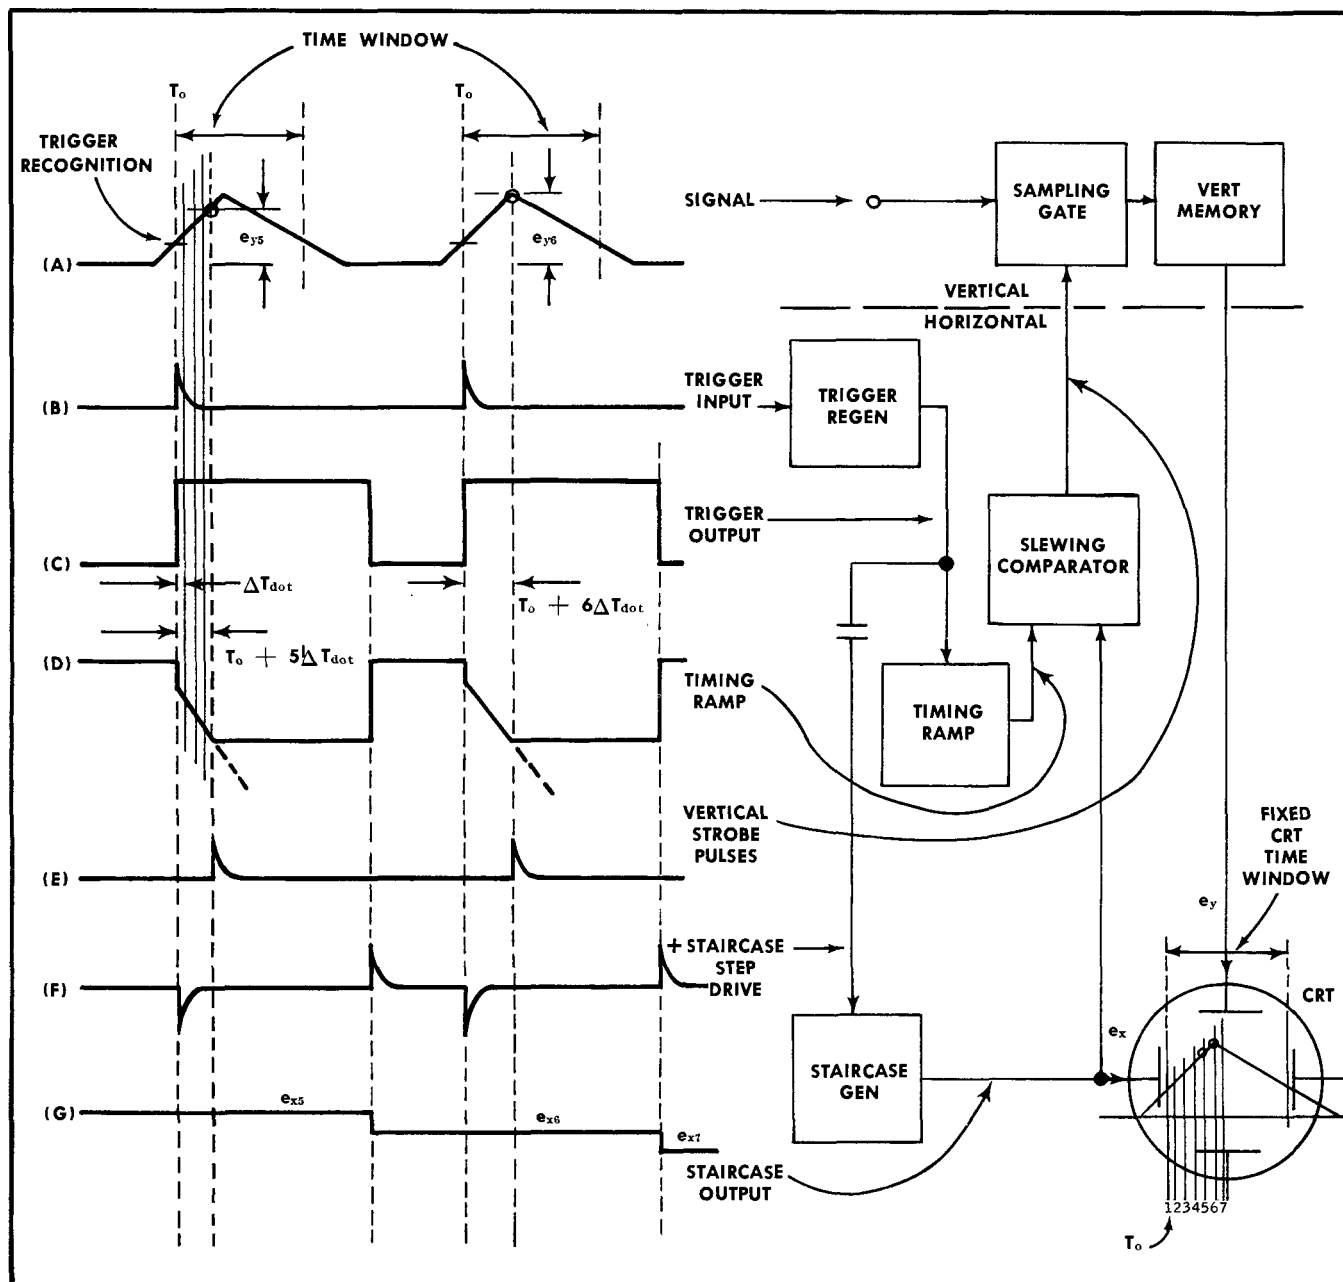
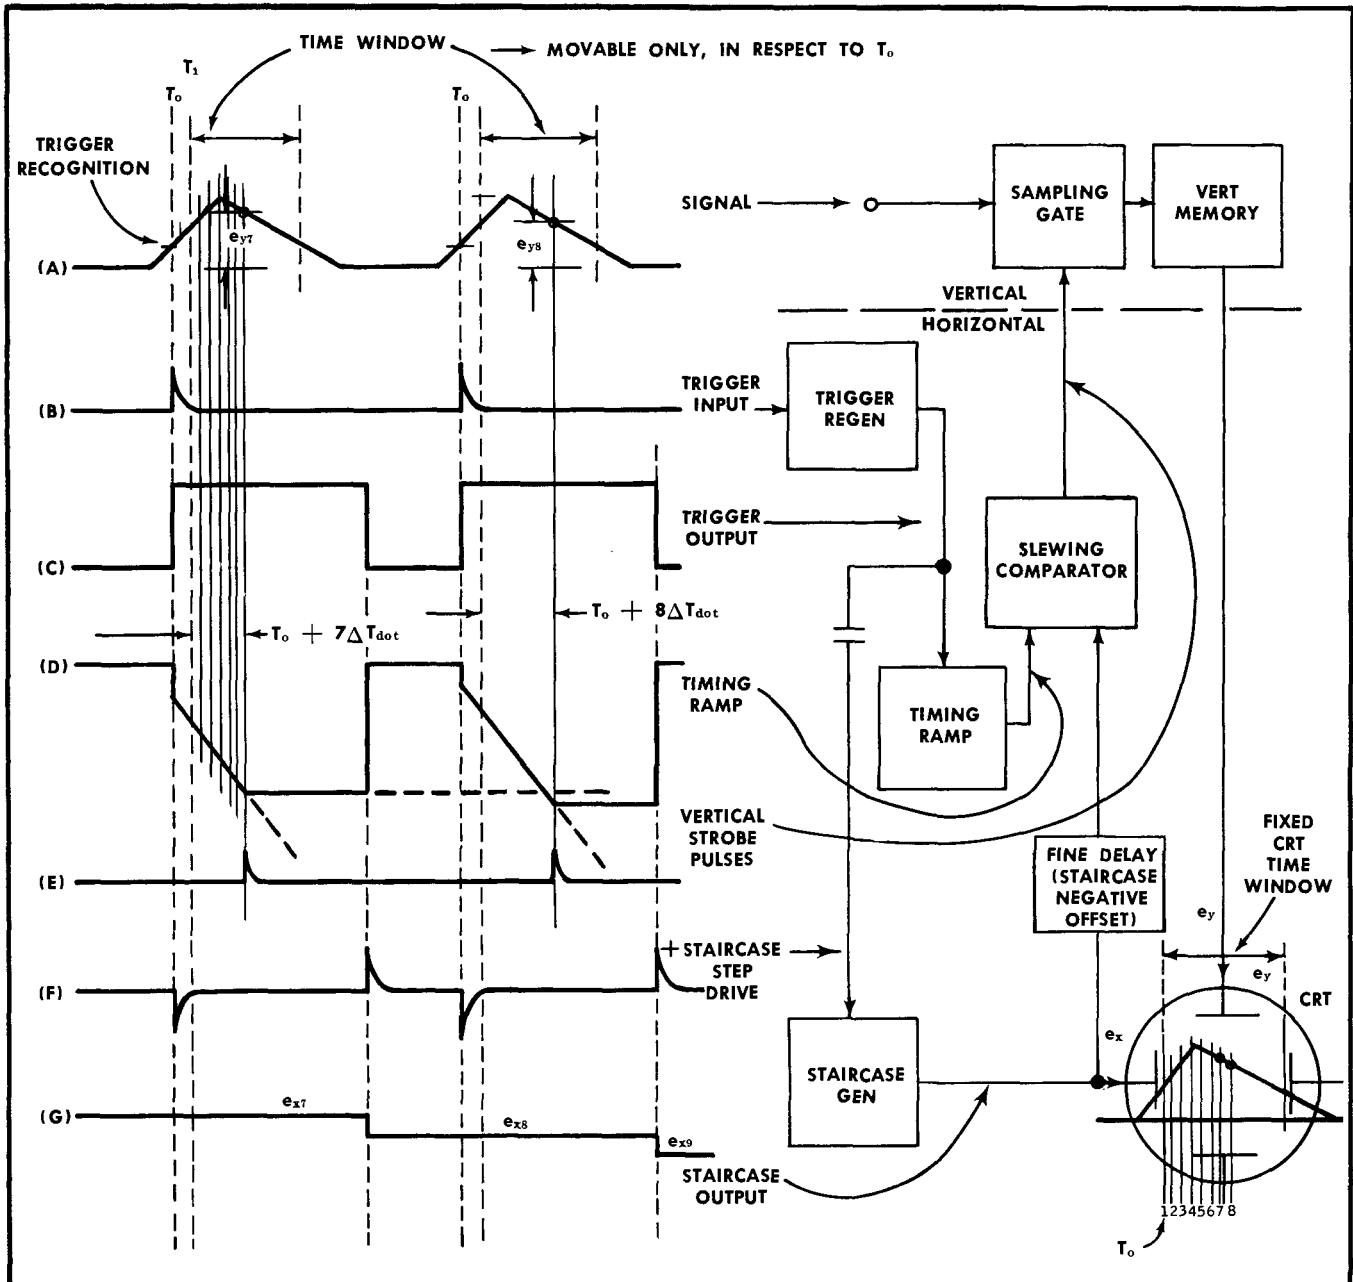

Fig. 3-2. Basic equivalent time sampling oscilloscope.
Fig. 3-3. Adding a time-window Delay control to basic block of Fig. 3-2.
The equivalent time sampling process is shown in basic form in Fig. 3-2. The waveforms represent just two samples in a sequence, such as the fifth and sixth dots of a 1000-dot display. Each waveform is identified with its block, or with interconnections in the adjacent block diagram.
The trigger regenerator circuit is the master programmer of Fig. 3-2. It delivers a positive step pulse at the time of trigger recognition, T_0 , to start the process that takes and displays one sample. Immediately after T_0 the trigger circuits lock out any more triggers until the rest of the circuits have operated and the dot has been properly displayed. (The period of time during which triggers are locked out is called the holdoff time, and is made variable by the Type 3T6 front panel RECOVERY TIME control. See the Operating Instructions for RECOVERY TIME control uses.)
At T_0 , the trigger circuit starts the timing ramp running in a negative direction. The timing ramp "times" the occurrence of the strobe drive pulse sent to the vertical sampling unit as the timing ramp is compared with the voltage of the staircase generator in the Slewing Comparator block. Since the staircase output signal voltage is different for each trigger circuit output pulse, the timing ramp is allowed to run down farther for each successive sample. The result is a time "slewing" of successive sampling times. The slewing increment is identified in Fig. 3-2 as ΔT_{dot} and is a fixed time increment per sample. ΔT_{dot} is set by both the timing ramp slope and the staircase step amplitude.
The waveforms of Fig. 3-2 imply that there can be a CRT dot displayed from the time of the vertical strobe pulse to the time of the timing ramp reset. Actually the CRT blanking is also controlled by the vertical sampling unit. The vertical unit prevents CRT beam current at the time of the vertical strobe pulse and until the vertical memory is stable, typically for 2 to 3 μs .
fied in Fig. 3-2 can be moved so that a different portion of the signal is displayed. Fig. 3-3 shows a Delay control added between the Staircase Gen block and the Slewing Comparator block. This new circuit allows a negative DC voltage offset to be applied to the staircase signal that is compared with the timing ramp signal. Since the comparator block is a DC coupled comparator, changing the DC level of the staircase signal in a negative direction causes the timing ramp signal to travel farther negative before comparison occurs. Since the timing ramp signal is a ramp, the more negative comparison results in a later comparison and later
The staircase signal sent to the CRT is not altered; thus, the voltages that set the CRT dot positions are not changed, the first dot occurring at the CRT left side. If the Delay control applies a negative offset to the staircase signal that feeds the comparator block, the first displayed dot at the CRT left side will have a vertical voltage related to the signal amplitude at time T_1 (see Fig. 3-3 upper left). The result is an apparent horizontal shift of the displayed signal
Fig. 3-3 does not show any method that will alter the equivalent time sweep rate. Two different controls are used to alter the Type 3T6 sweep rate. One is called the Decade control and the other the Multiplier control. Both controls operate BCD digital logic circuits that change the equivalent time sweep rate thus: the slope of the Timing Ramp is altered and the Staircase signal amplitude is altered before it is sent to the Slewing Comparator block.
Now the relation between total Timing Ramp length (and duration) and staircase average DC voltage is significant. With the two least significant DELAY dials at 0 (00), the staircase voltage entering the Slewing Comparator starts the first sample (of a sweep) very soon after the Timing Ramp starts. The staircase end comparison is made slightly less than half way down the Timing Ramp total voltage run. With the two least significant DELAY dials at 9 (99), the staircase voltage entering the Slewing Comparator starts the first sample (of a sweep) at a point part way down the Timing Ramp voltage run. The last staircase comparison is made very near the end of the Timing Ramp voltage run, which is almost twice the time delay (slewing) from T_o as was the case for the last sample when the DELAY dials were 00. Refer to the waveforms (D) and (G) of Fig. 3-3 for support of the above statements regarding slewing comparison.